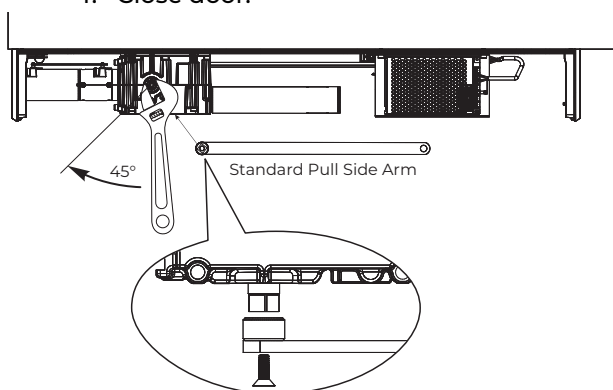

Fig. 15
1. Using an adjustable wrench, rotate top pinion 45 degrees toward door hinge. You will feel resistance from spring. (Fig. 15)
2. **While holding pinion at 45 degrees**, slide arm on bottom pinion at orientation shown and attach with 1/4-20 x 3/4" screw. (Fig. 15)